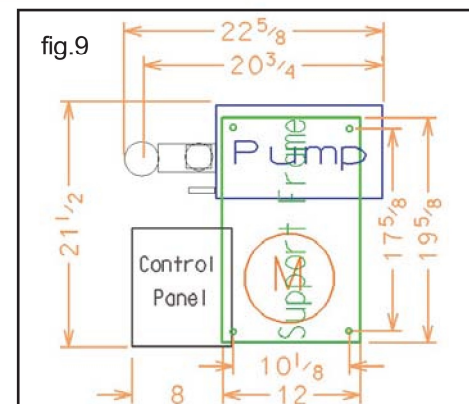

fig.9
- Bolt Pump Frame To Surface - Pump frame has 4 bolt down holes in the frame. Use these to secure the unit to the surface with lag bolts or similar fasteners. fig.9